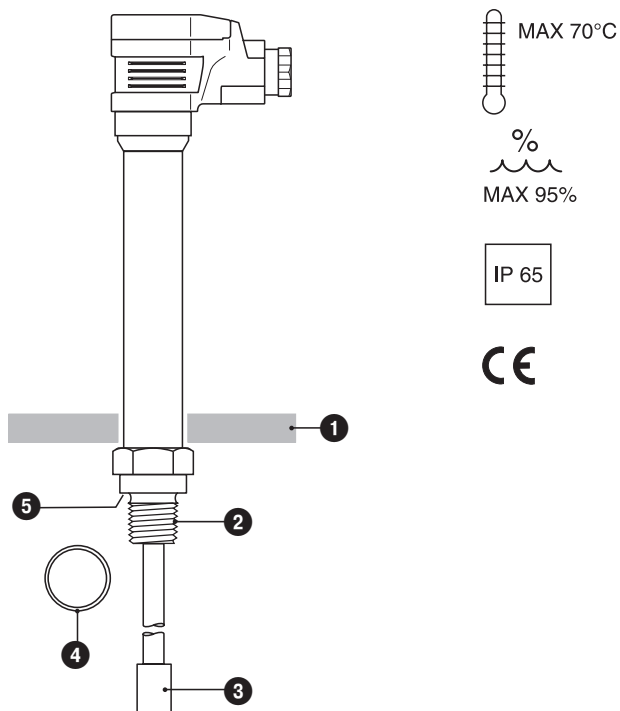
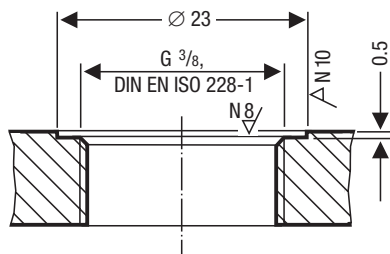

Fig. 4
Fig. 5
1. Check seating surfaces. **Fig. 4, Fig. 5**
2. Place joint ring ④ onto seating surface ⑤ of the electrode. **Fig. 4**
3. Apply a light smear of silicone grease (e.g. Molykote® 111) to electrode thread ②.
- The seating surfaces of the standpipe or the flange provided on the vessel must be accurately machined, see **Fig. 5**.
- Do not lag electrode body above the hexagonal section. **Fig. 3, Fig. 4**